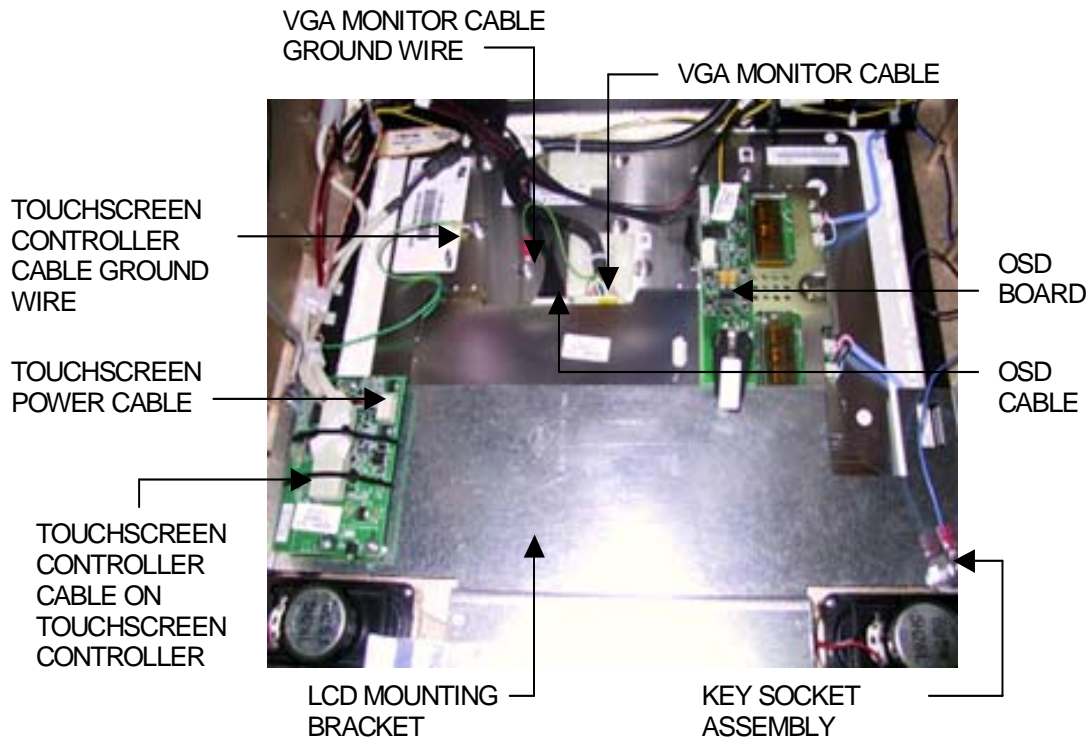

FIGURE 1 - CLOSEUP OF CPU SECTION
3. Remove the screw and washer fastening the strain relief cord, then remove the remaining 5 screws fastening the LCD mounting bracket to the game. The key socket ground wire will also be removed in the process. See Figure 1.
4. Remove the nut, wire and bolt from the key socket assembly located on LCD mounting bracket, then remove the bracket. See Figure 1.
5. Carefully cut the tie wraps around the VGA monitor cable, remove the ground wire and disconnect the cable from the monitor. See Figure 1.
6. Remove the OSD cable from the twist clamp and disconnect it from the OSD board and the monitor. Then remove the OSD board from the Velcro attached to the hinge and set it aside. See Figure 1.